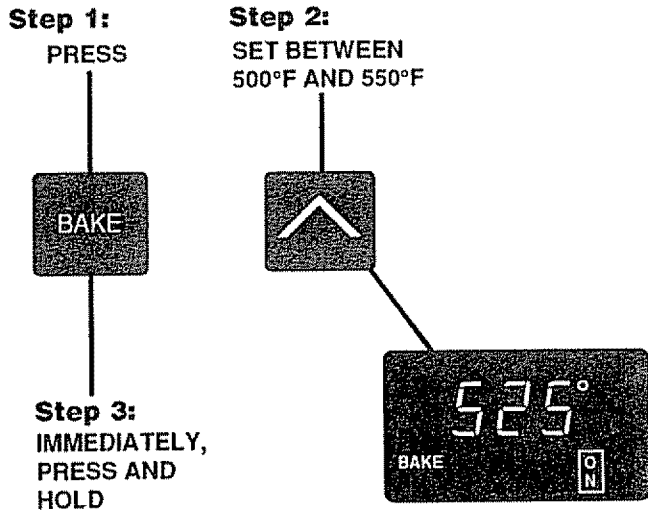

Fig. 1
2. Select a temperature between 500°F and 550°F by pressing the **UP** arrow pad. See Fig. 1.